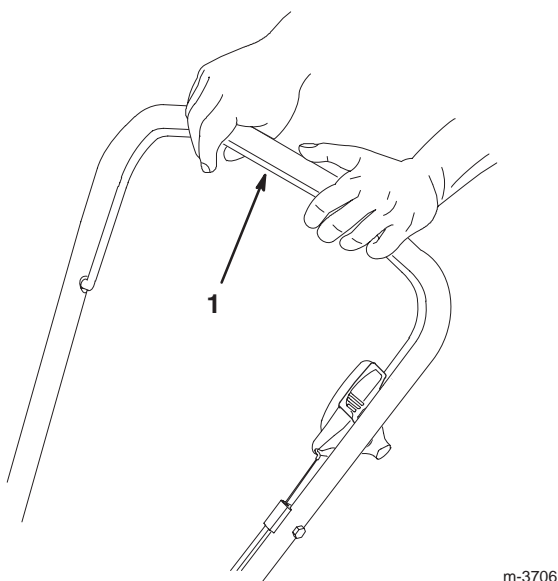

Figure 14
4. Squeeze control bar to handle (Fig. 14).